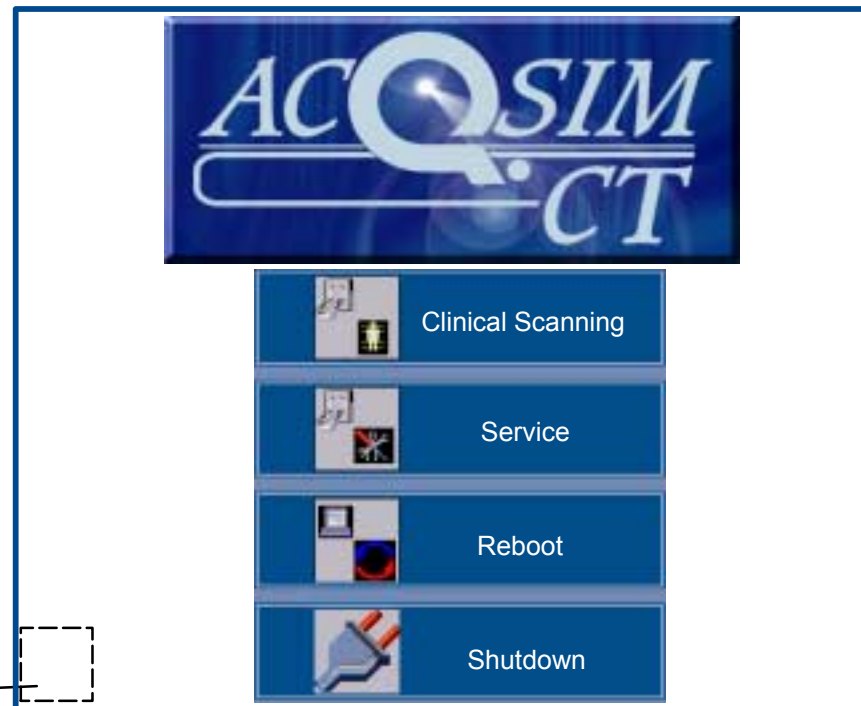

FIGURE 352 SERVICE APPLICATIONS SELECTION SCREEN
1. Boot the system. Select the SERVICE button from the opening screen. Refer to Figure 352. SEE NOTE below:
The Diagnostic GUI, which initiates AcQImage Diagnostics, Gantry and other utilities, may be started at this time (before starting the Service App) by clicking in the bottom left corner (slightly smaller than 1" square) and typing **PICKER** <CR>. After exiting the Diagnostic GUI, the Service Application Selection screen will return (Figure 352).